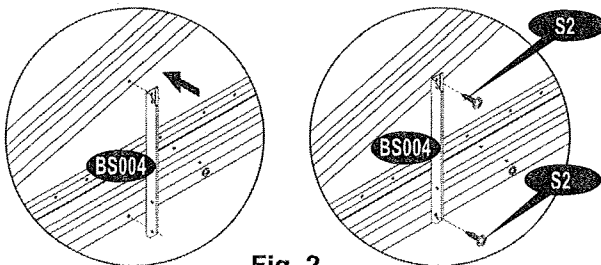

Fig. 2
12. Fix roof support bracket long/ left and right (BS004) with (S2) screws. See fig. 2. Brackets left and right must be face to each other.